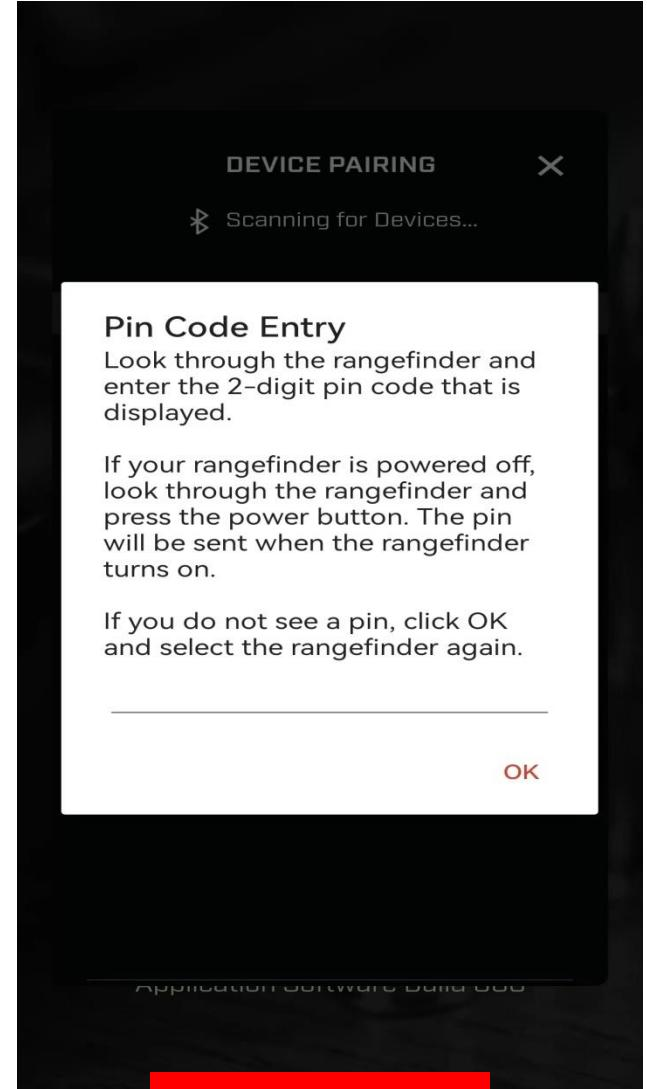

Figure 6
- 5) Click "LRF-0000" to enter the matching interface as shown in Figure 6,